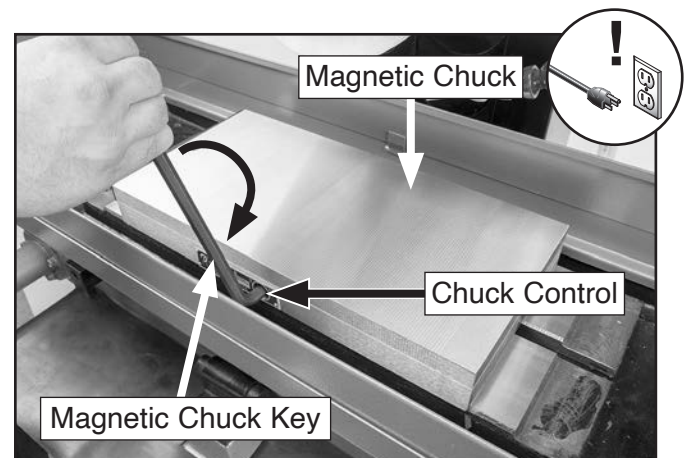

Figure 50. Activating magnetic chuck.
The Model G3104/G3155 is equipped with a dense magnetic chuck for mounting workpieces (see **Figure 50**). Ferrous workpieces can be mounted directly to magnetic chuck, while non-ferrous workpieces require a jig or vice that can be magnetically secured to chuck.
3. Insert chuck key into chuck control and rotate clockwise to activate magnetic surface (see **Figure 50**).